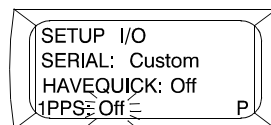

Figure 21. 1PPS Off Display
7. Press the up arrow key (figure 1, item 2) or down arrow key (figure 1, item 3) until Off is flashing for 1PPS (figure 21).